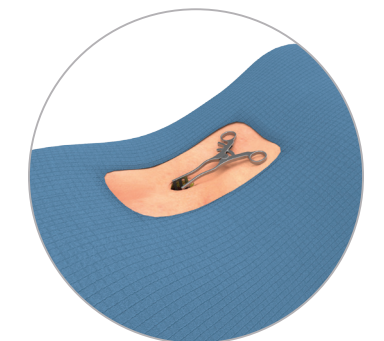

FIG. 3B. RETRACTOR IN POSITION TO VISUALIZE SUPRASPINOUS LIGAMENT
3. Insert the Retractor to visualize the supraspinous ligament (Fig. 3B).